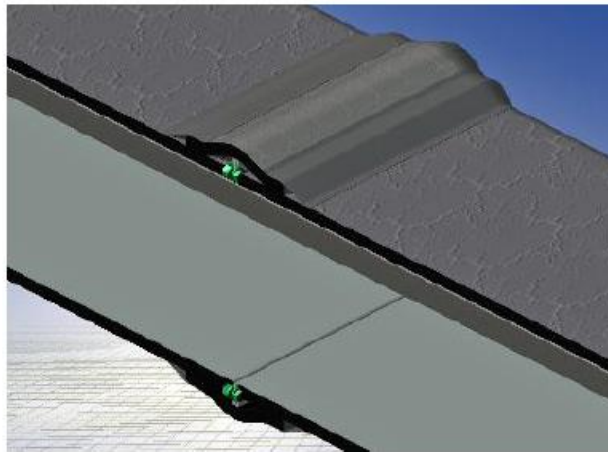
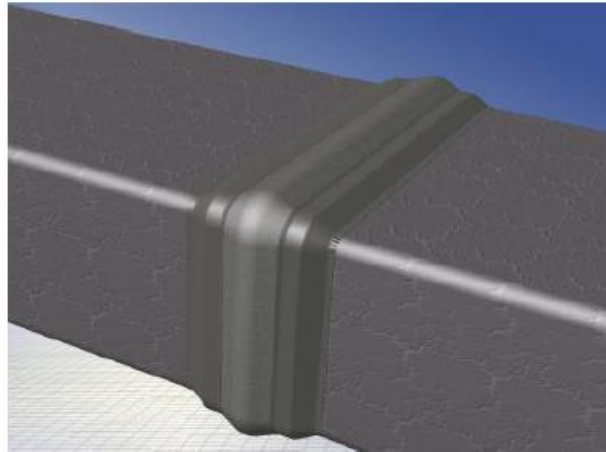

Figure 9 (Installation of strips around flanges – cut-away view)
Figure 10 (Installation of strips around flanges)
- 4.2.12.3. Fix one side first with aluminium foil tape, and then fold material over flange and fix with aluminium foil tape (Figure 9 and Figure 10). A small gap in the corner is normal and does not affect the performance of the insulation.